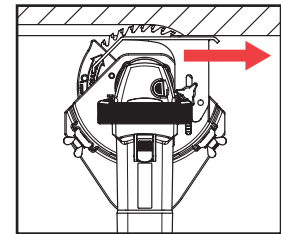
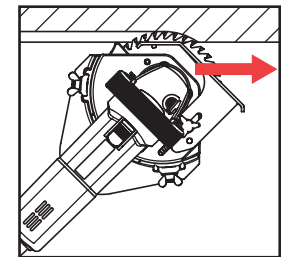

Figure 5
Figure 6
- The depth adjuster accurately controls depth of cut from either straight-on (Figure 5) or a 45° angle (Figure 6).